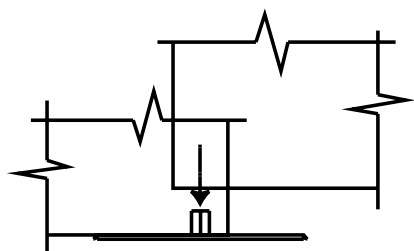

FIG. 10
9. Stand the first panel and place the cut in the left-hand end of the bottom flange over the sleeve on the base plate, then press down so the flange encloses the sleeve (Fig 10). Pass a short picket (1250 mm) through the top flange and into the round sleeve.